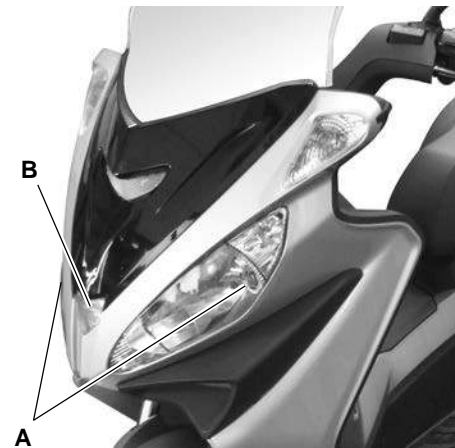

Fig. 37
- **Low beam / high beam** (A - Fig. 37)
- **Parking light bulb** (B - Fig. 37)